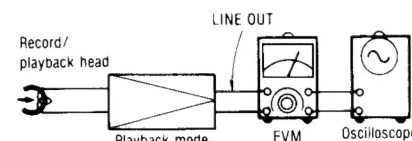

Fig. 2
- The serial number plate of this product to attached to the bottom cover (Shown in fig. 2).
1. Make connections as shown in fig. 2.
1. Test equipment connection is shown in fig. 2.